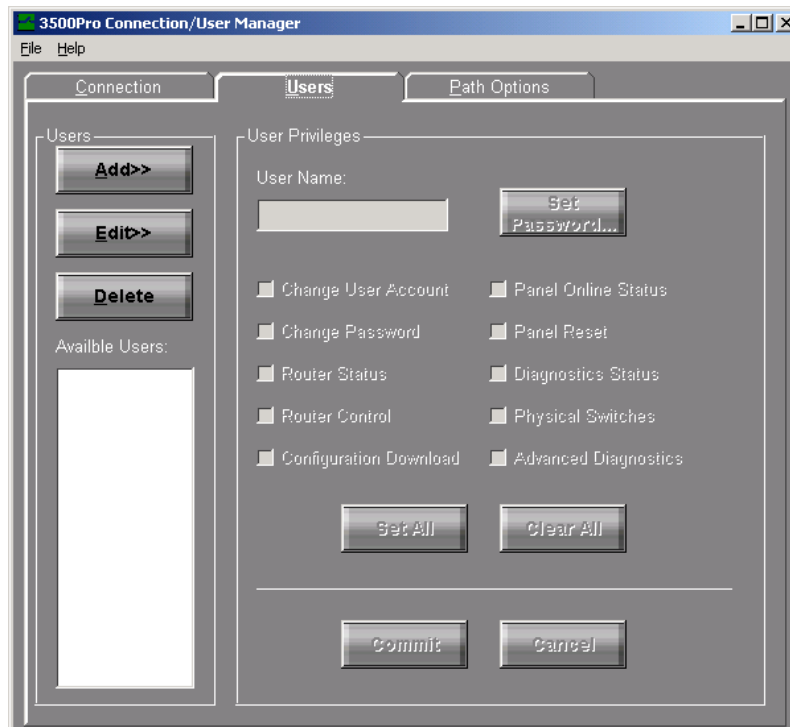

Figure 68: Users Tab
2. Select the Users tab (see Figure 68).